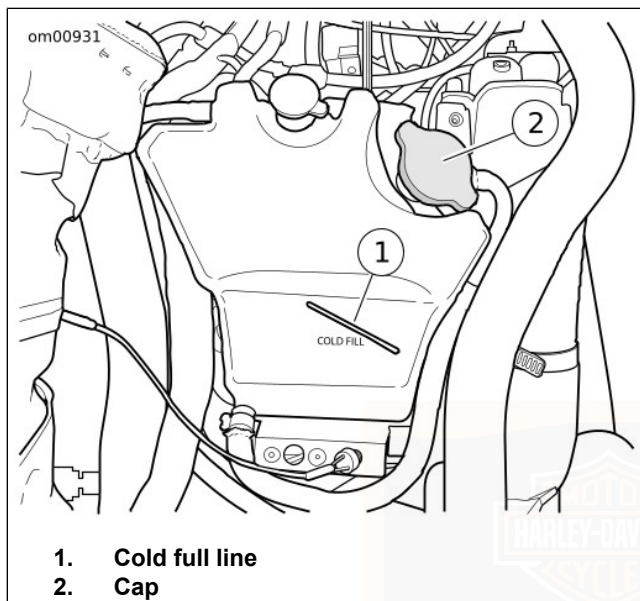

Figure 32. Coolant Bottle
4. See Figure 32. Check coolant level in coolant bottle with coolant cold and motorcycle on jiffy stand.